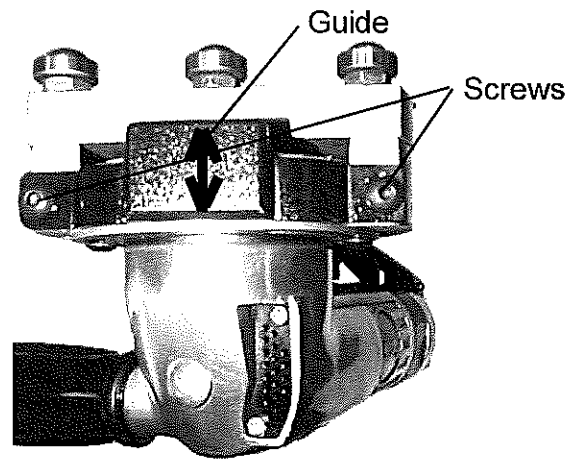

Fig. 3
2. The Guide can also be used to limit the amount of stock that is removed. To achieve this loosen the screws on the ends of the Guide and move it in and out until the sides of the guide are even with the grinding disc. (See Fig. 3) When in positioned retighten the screws. This will allow the grinding disc to only grind off a small amount. The sides of the guides will contact the bedknife and act as a depth gauge. If the grind is too heavy move the guide forward. If the grind is too light move the the guide back.